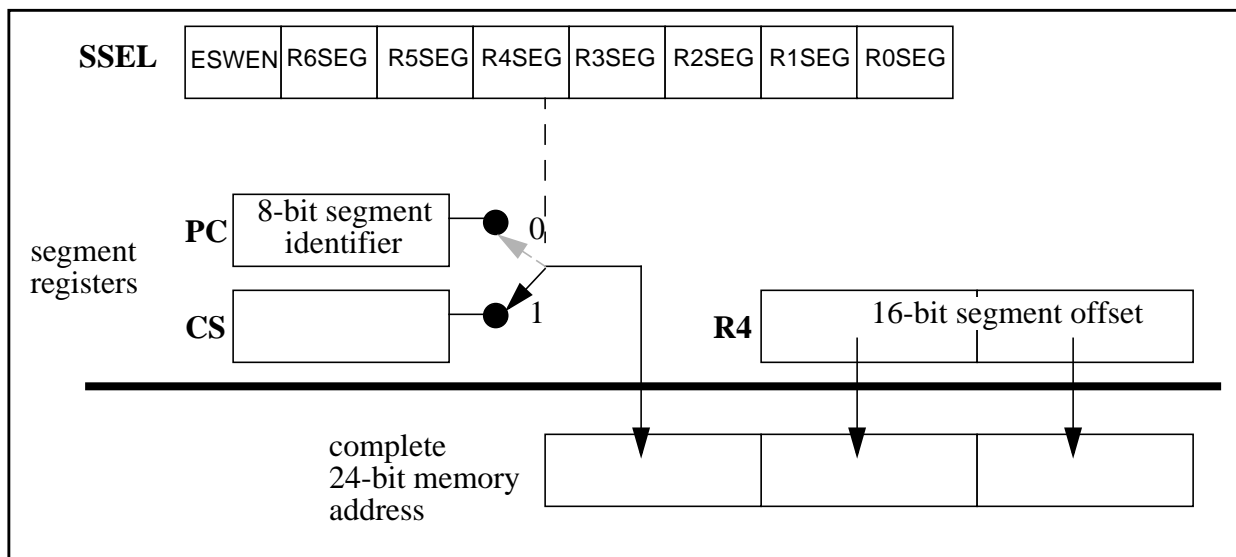

Figure 3.12 MOVC addressing in code memory
A special instruction, MOVC, is defined in the XA for accessing constant data (e.g lookup tables, string constants etc.) stored in code memory. There is a standard form of MOVC that reflects the native XA architecture, and there are two variations that reflect 80C51 compatibility; see Chapter 9 for details of 80C51 compatibility. The standard form of MOVC uses a 16-bit register value as a pointer, appended to either the top 8 bits of the Program Counter (PC) or the Code Segment register (CS) to form a 24-bit address, as shown in Figure 3.12. The source for the upper 8 address bits is determined by the setting of the segment selection bit (0 = PC and 1= CS) in the SSEL register that corresponds to the operand register.